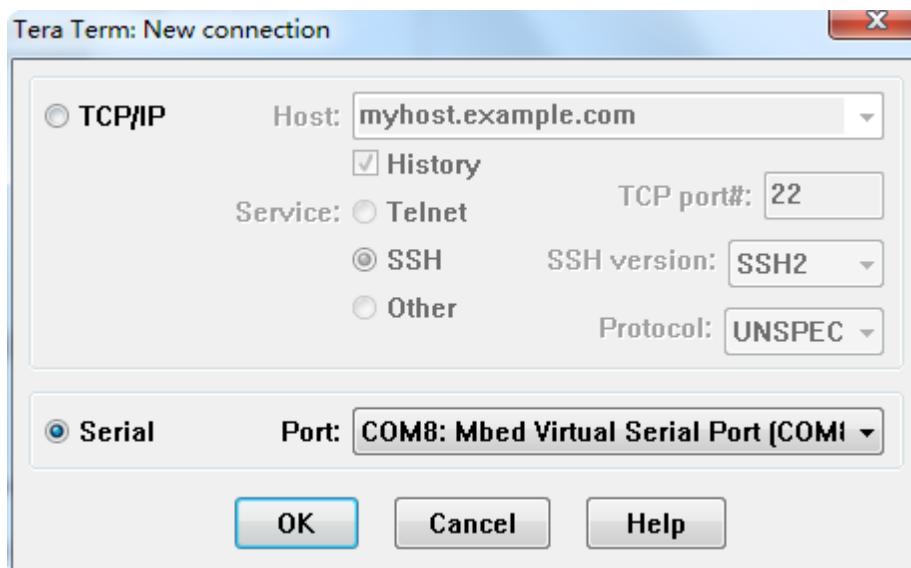

Figure 28. Connect to mbed serial port
- 1) Open the terminal application and connect to the mbed serial port. If you are using TeraTerm, select **File** and then **New Connection...** from the menu bar, and then select **Serial**. Provide the **Port** corresponding to **Mbed Virtual Serial Port**, as shown in Figure 28, and click **OK**.